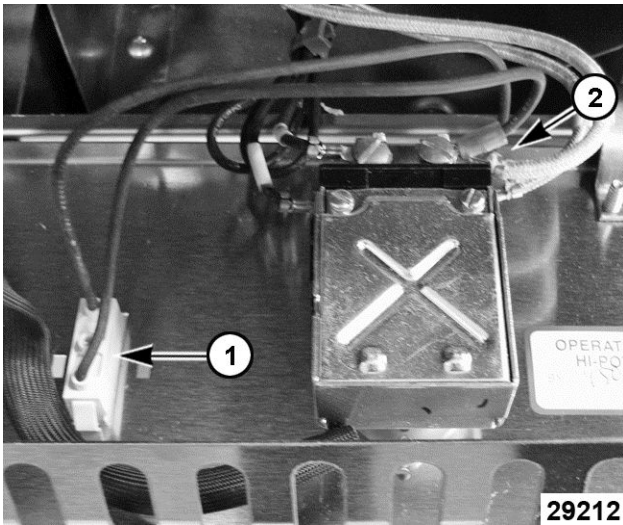

Fig. 35
- A. Front control panel indicator lights (1, Fig. 35) electrical connections (2, Fig. 35).